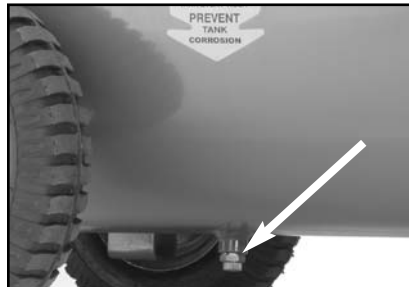

Figure 5. Drain valve location.
2. Close the drain valve, shown in **Figure 5**, so the tank can build up pressure.
To release air by using the drain valve, simply turn the release nut to allow air to flow out of the tank. The drain valve is shown in **Figure 5**. The drain valve is also used to drain condensation that builds up in the tank.